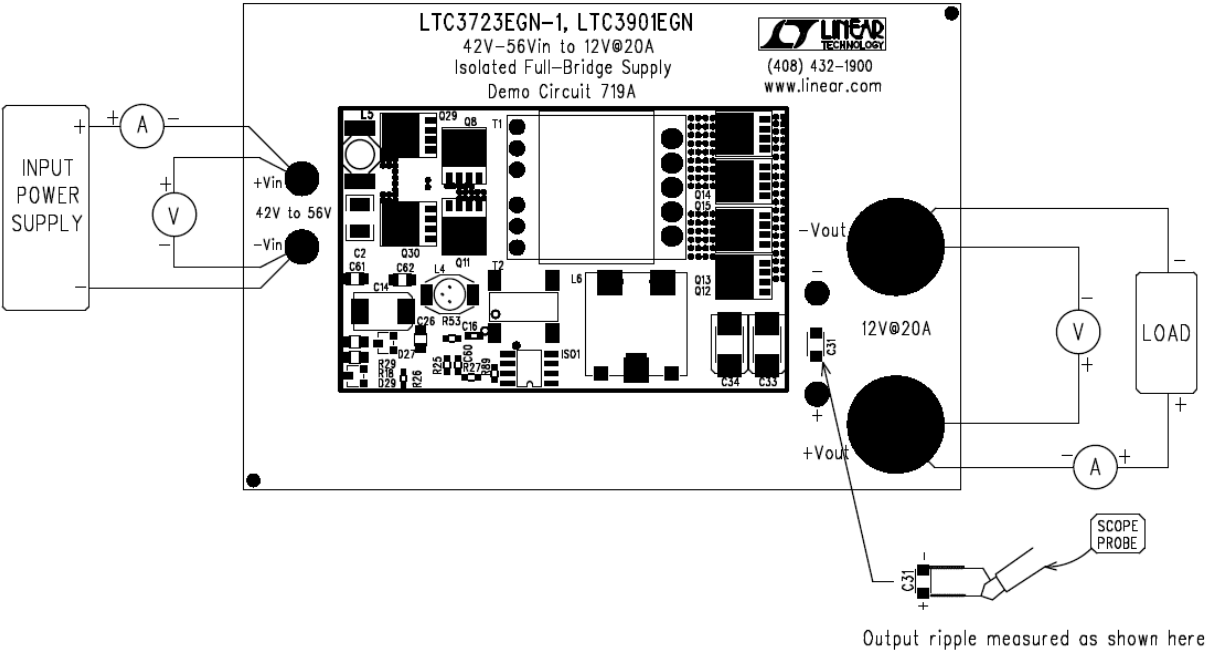

Figure 1. Proper Measurement Equipment Setup
Demonstration circuit 719 is easy to set up to evaluate the performance of the LTC3723-1, LTC3901, LTC4440, and LT1431. Refer to Figure 1 for proper measurement equipment setup and follow the procedure below:
**NOTE.** When measuring the output voltage ripple, care must be taken to avoid a long ground lead on the oscilloscope probe. Measure the output voltage ripple by touching the probe tip and ground ring directly across the last ceramic output capacitor as shown in Figure 1.